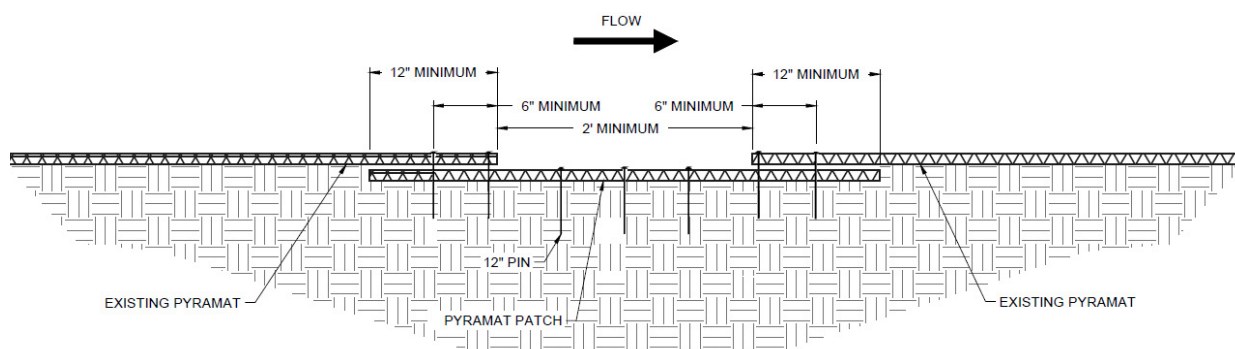
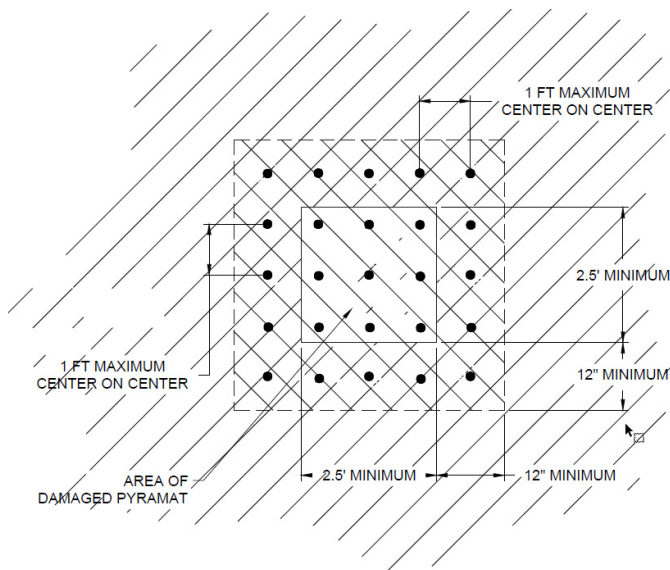

Figure 14: **PROPEX** Pyramat patch cross section
Figure 15: **PROPEX** Pyramat patch plan view
- A. Acceptable (A) - The rated area is in satisfactory, acceptable condition, and will function as designed and intended during the rain event. **PROPEX** Pyramat has no exposed edges, is installed tightly by maintaining direct contact to the slope surface with no drilling beneath, and has over 90% vegetation cover. There is no noticeable damage present.
- B. Minimally Acceptable (M) - The rated area has a minor deficiency that needs to be corrected. The minor deficiency will not seriously impair the functioning of the area during the next rain event; however, the overall reliability of the project will be lowered because of the minor deficiency. **PROPEX** Pyramat has 75% vegetation cover with unvegetated patches as large as one square yard. Edges of the material are exposed with noticeable damage. Minimal erosion has occurred underneath **PROPEX** Pyramat.
- C. Unacceptable (U) - The rated area is unsatisfactory. The deficiency is so serious that the area will not adequately function in the next rain event. **PROPEX** Pyramat has been physically torn, ripped, or lifted from the slope surface. Less than 75% vegetation cover is present with unvegetated patches being greater than 1 square yard, and there is evidence that erosion is occurring beneath **PROPEX** Pyramat.
3. To repair **PROPEX** Pyramat, cut out and remove damaged areas in a square configuration a minimum size of 2 ft by 2 ft (0.6 m x 0.6 m). Remove all vegetation and debris atop of the material. Loosen the top 1-2 in (25-51 mm) of soil in the patch area then seed. The subgrade of area to be patched shall be prepared to be smooth and uniform and transition smoothly into the in-situ area. Cut a square **PROPEX** Pyramat patch a minimum of 12 in (305 mm) greater than the damaged area for all four sides of the patch. Overlap the patch area in all directions a minimum of 12 in (305 mm). The patch overlaps shall be tucked under the existing damaged **PROPEX** Pyramat material (Figure 14 and Figure 15).